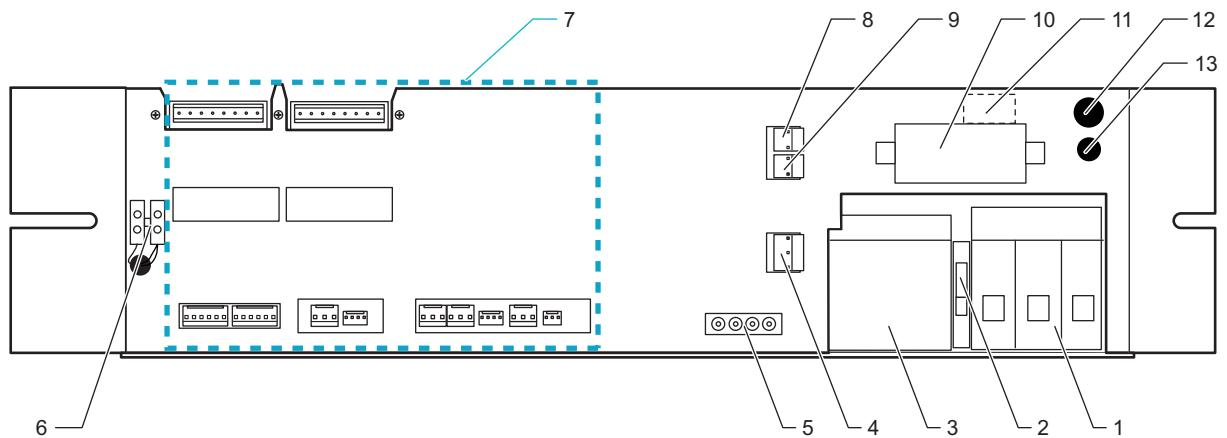

Fig. 4: Underside of the E-Box (V/D 65 l – 200 l)
The circuit board also has three switched 230 V outputs (via optocoupler, TRIACs – see Fig. 4: oben pos. 7, 8, 9) for the following: